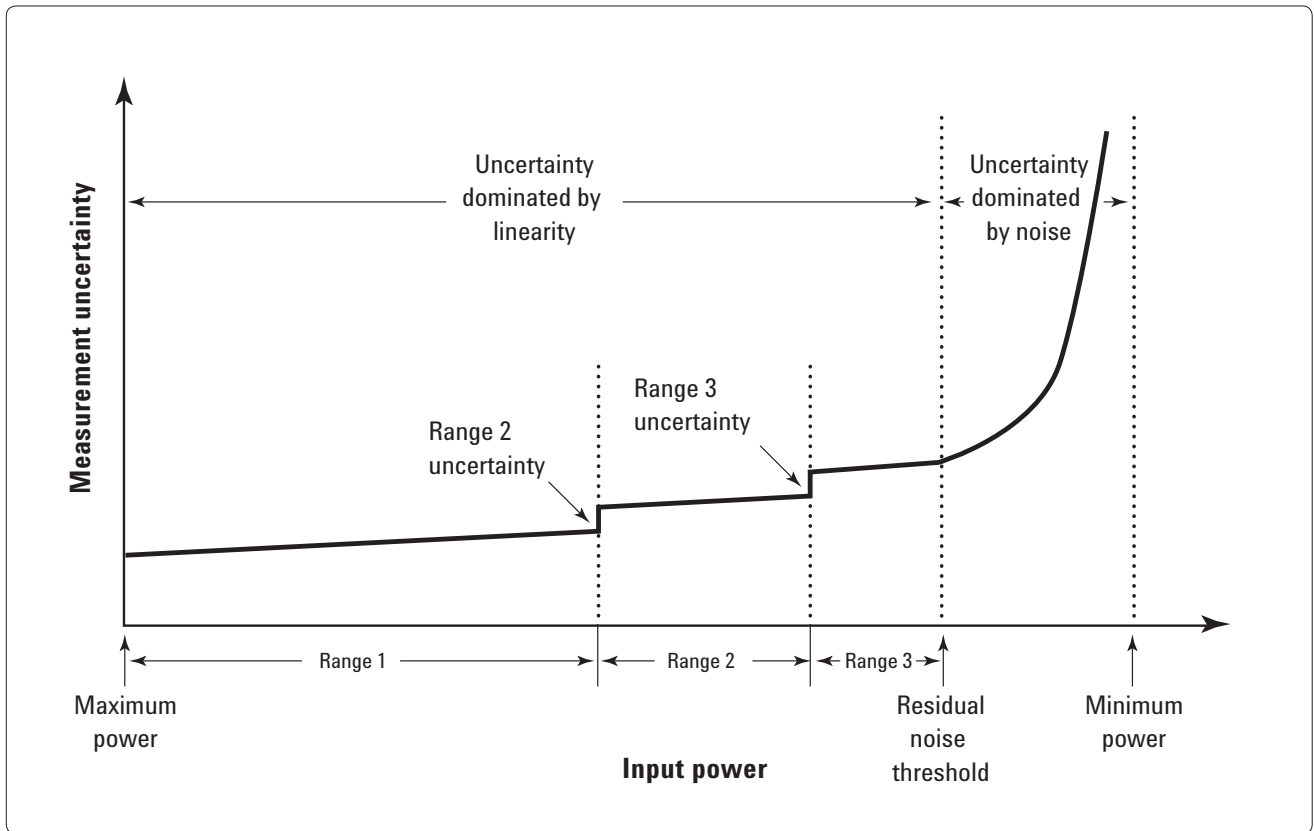

Figure 1. Measurement uncertainty vs. input power relationship
a. In absolute accuracy of TRFL measurements, the "cumulative error" is the error incurred when stepping from a higher power level to the Residual Noise Threshold power level. See Figure 1 for a graphic. In order to calculate the cumulative error, you must determine the Residual Noise Threshold power and determine the Power Meter Range. The formula to calculate the cumulative error is: $\pm(\text{Power Meter Range Uncertainty} + 0.005 \text{ dB}/10 \text{ dB step})$. For example: the power sensor is Option 504, starting power is 0 dBm and power will be stepped to -120 dBm. Therefore starting power falls in the Power Meter Range 2-4 and the uncertainty is $\pm 0.190 \text{ dB}$, as indicated in the table on the next page.